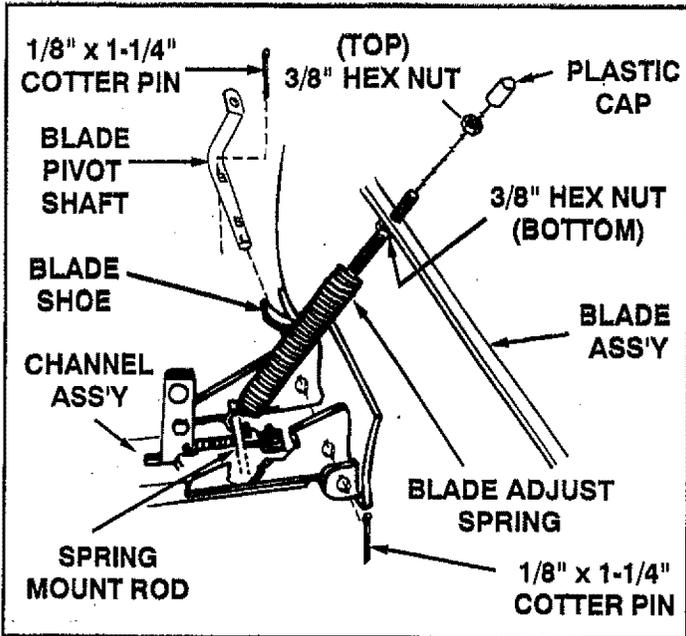

FIGURE 24 (Right Hand Side View)
- Insert a  $1/8"$  x  $1-1/4"$  cotter pin down through hole nearest to bend in blade pivot shaft and spread end. Attach blade assembly to channel assembly by inserting the blade pivot shaft from the left side (bend facing up) through the notched holes in the blade and channel assemblies. Secure with another  $1/8"$  x  $1-1/4"$  cotter pin through the end hole in pivot shaft. Spread end of pin. See figure 24.
- Attach blade adjust spring over spring mount rod as shown in figure 24. Remove plastic cap, and one  $3/8"$  hex nut from bolt assembled in spring. Adjust the remaining  $3/8"$  hex nut down approximately  $1"$  onto the bolt threads. Assemble bolt up through the hole in top edge of blade and hold in place with the  $3/8"$  hex nut removed earlier. Tighten  $3/8"$  hex nut on top edge of blade down against the bottom  $3/8"$  hex nut. Replace plastic cap over end of bolt threads. See figure 24.
- The tension of the blade adjust spring is adjustable to permit blade to tilt forward to by-pass solid obstructions. To change spring tension (standing in front of blade assembly), adjust the nuts at upper end of the spring bolt, turning counter clockwise to relieve tension and clockwise to increase tension. See figure 24 on page 13.